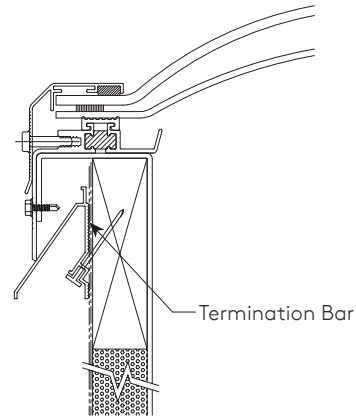

Figure 5.0
- If optional roof termination bars supplied by the skylight manufacturer are used follow the manufacturer's directions for fastening the termination bars to the curb. (See Figure 5.0)